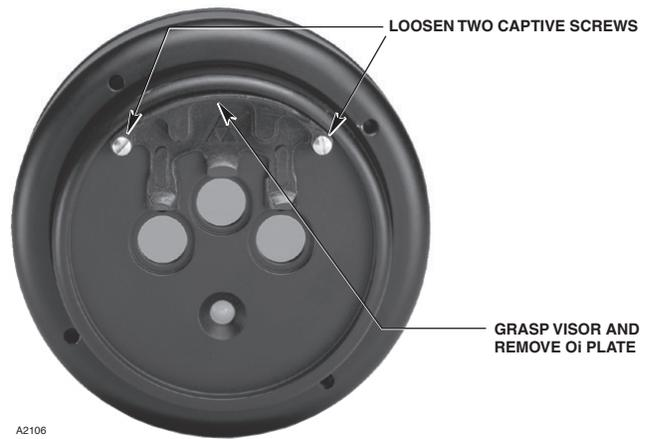

Figure 17—Oi Plate Removal
2. Loosen the two captive screws, then grasp the **oi** plate by the visor and remove it from the detector. See Figure 17.